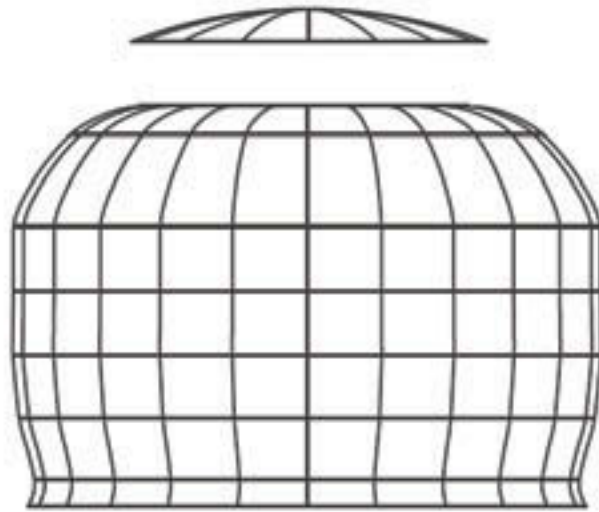

Fig. 45: Tank with roof cap
- As the tank gets larger, its roof span and diameter also increase. The roof, if cast as a single piece, would need to be thicker, and for larger tanks this can be expensive. An alternative that uses less material is to cast only the shoulder of the tank (60–135 cm from the edge of the tank, depending on size) integral with walls, but not the entire roof. The wide hole left open can be closed by a domed cap cast over the roof, which rests on the tank's shoulder and is not connected by reinforcing wires (figure 45). A second advantage of two-piece roof construction is that it minimizes scaffolding. The roof edges (shoulders) can first be cast with the walls. Then the cap mold is assembled, fastened to the tank, and the cap cast by people crouching on the roof edge.